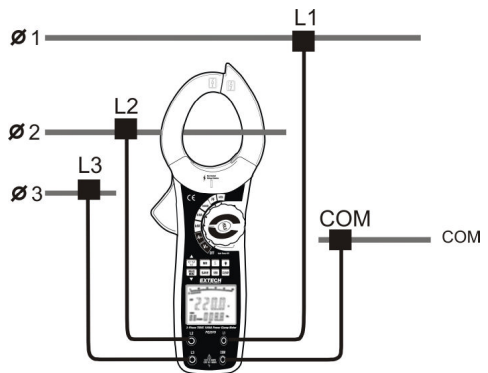
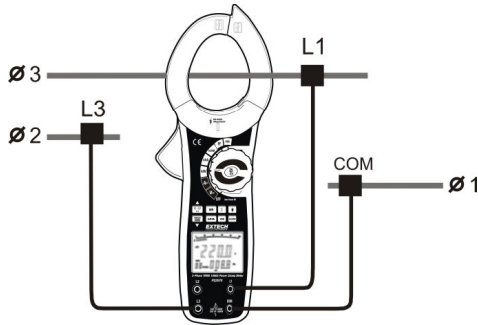

Figure 7
Figure 10
3. Connect the four voltage leads as shown in Figure. 7
Connect the Meter as shown in Figure 10.
For Figure 10:  $\Sigma W = W1 + W3$
2. Connect the meter as shown in Fig. 7 (3P4W) or Fig. 10 (3P3W)